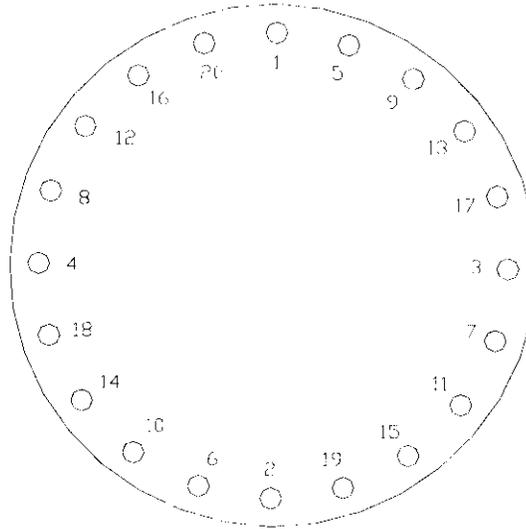

**Figure 1.22** The positions of the tensioning studs, nuts, and top plate Conflat flange as the 20 Conflat bolts are tightened.
- 1.22 Raise the nuts on the tensioning studs to hold the lead in place, as shown in Figure 1.22.